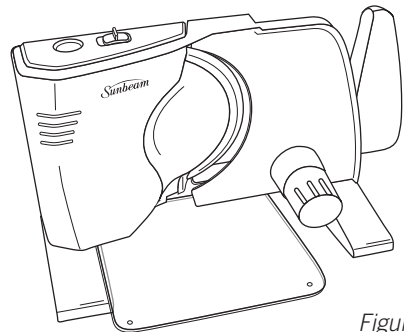

Figure 5
4. Remove the food collection tray from underneath the unit and place it on the left hand side of the food slicer to collect the slices. See Figure 5.